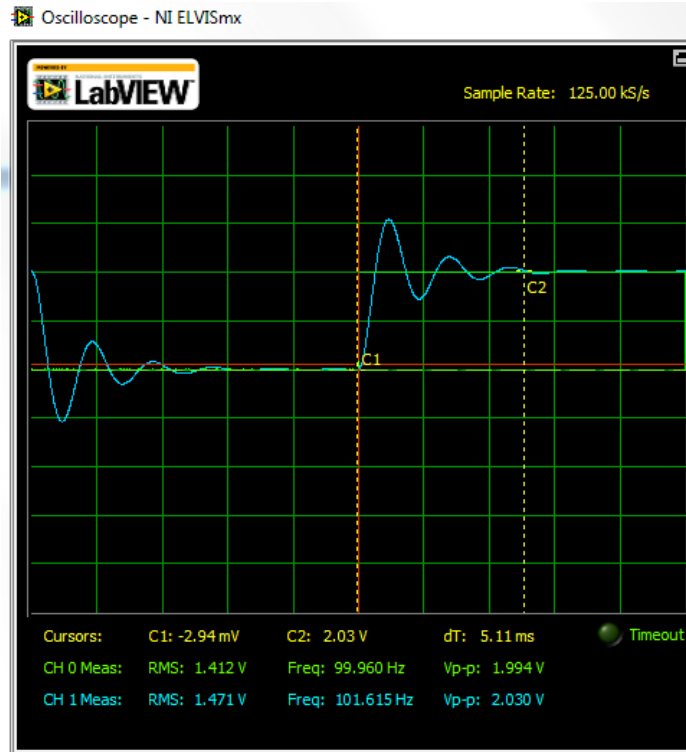

Figure 16: PI Control of a first order system with 50% overshoot
- Adjust your controller so you get an output similar to Figure 16 which has a **50% overshoot** and settling time of approximately **5.00 ms**. You should include a screen shot of this oscilloscope output in your lab memo.